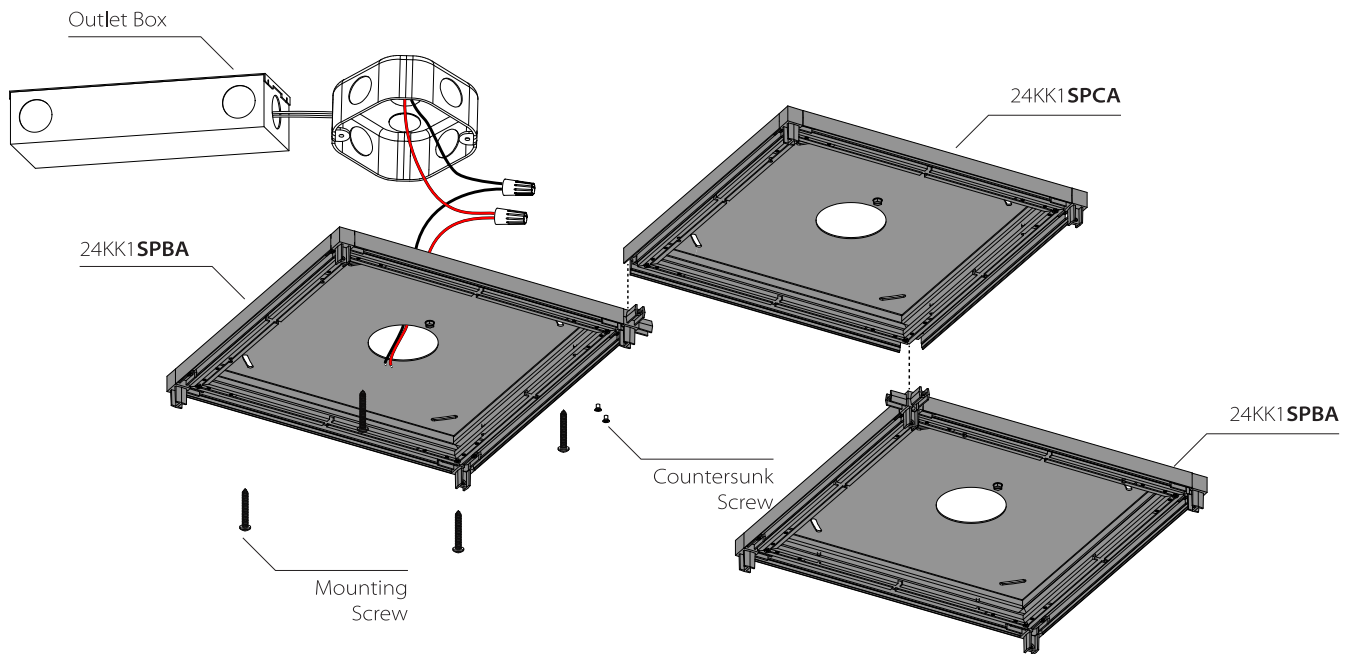

Fig. 2a
- 5a. Install (2x) 24KK1 **SPBA** and (1x) 24KK1 **SPCA** to one another using countersunk screws as shown in Fig. 2a.